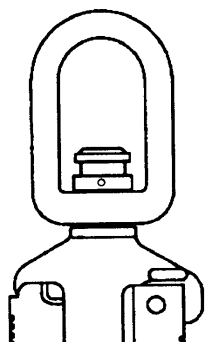
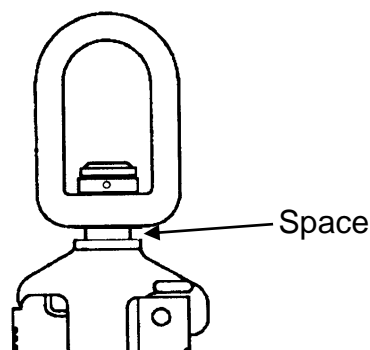

Figure 1 (New)
Figure 2 (Activated)
Your retractable lifeline has been supplied with a stress indicator (6) that is an integral part of the locking swivel snaphook (5). When new, the stress indicator appears as shown in figure 1 (page 3). If subjected to a fall arrest impact (activated), it will appear as shown in figure 2 (page 3). **DO NOT USE** if the stress indicator has been activated.